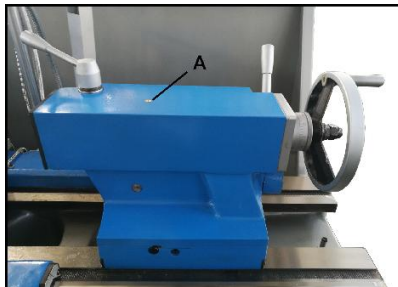

Fig 26
- Lubricate 1 ball oiler (A, Fig 26)